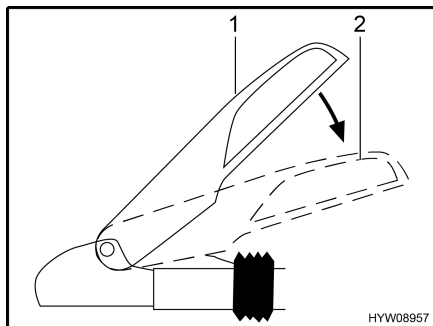

Fig. 81 Coupling handle
- Activate the stabilising mechanism. To do this, press the coupling handle downwards (Fig. 81,2) from the closed position (Fig. 81,1) to its stop limit.